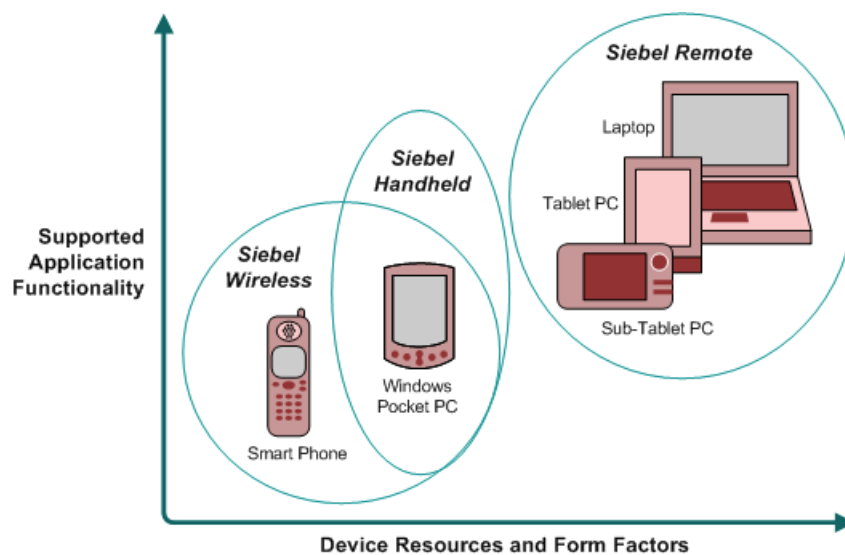

Figure 1. Siebel Mobile Product Platforms
Figure 1 illustrates the hardware platforms on which these products run.
**NOTE:** In Figure 1, *form factors* refers to the general capabilities, screen shapes, and sizes of the various devices shown in the illustration.